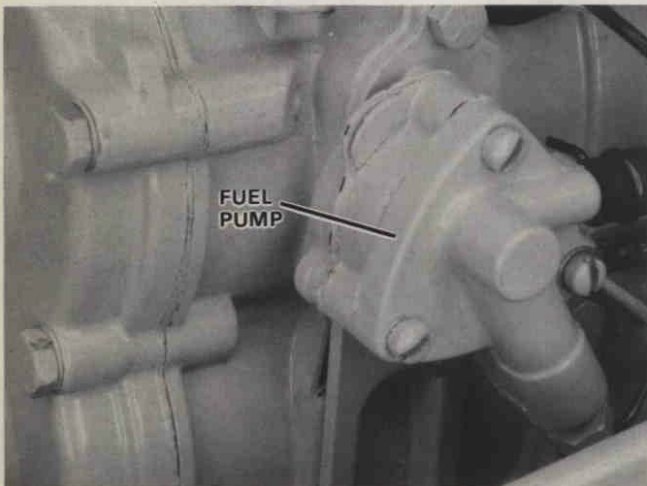

Figure 7. Removing Fuel Pump.
2. Remove three (3) filister head screws securing the fuel pump to the transfer port cover. Figure 7.